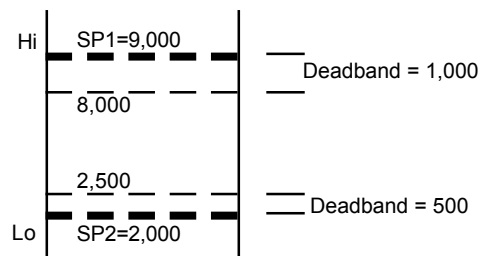

Figure 6-2. Setpoint Example
**Example:** See Figure 6-2. A vessel with a 9,300 lb capacity has setpoint 1 (*SP1*) set at 9,000 lbs gross weight (*Net/Grs* is set to *Grs*). *Hi/Lo* is set to *Hi* and *Dead* is set at 1,000 lbs. When the contents exceed 9,000 lbs, the setpoint energizes, activating a pump to remove material from the vessel. The pump continues to operate until the setpoint de-energizes at a material weight of 8,000 lbs (9,000 lbs minus the 1,000 lb deadband).